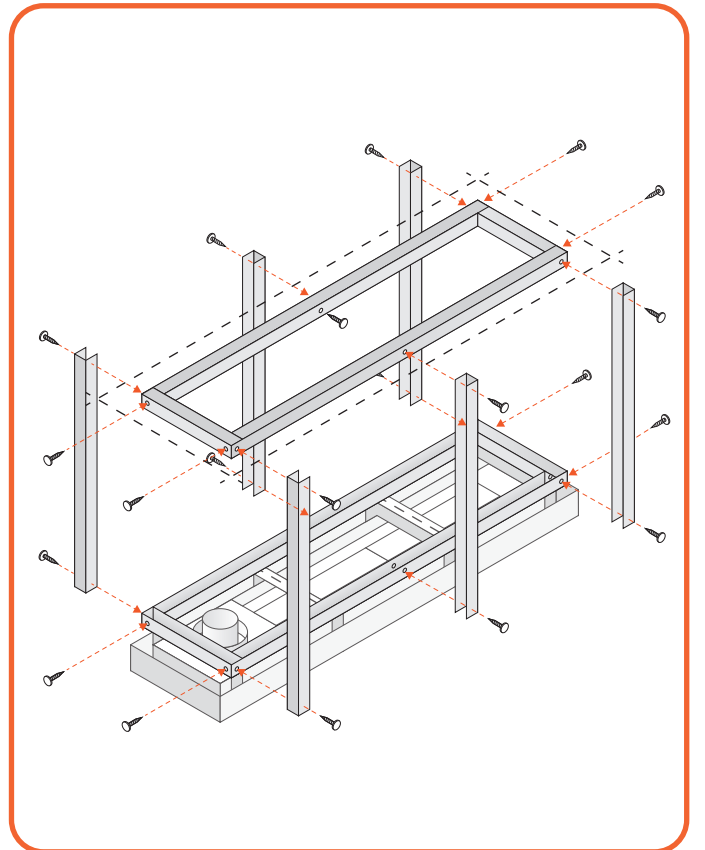
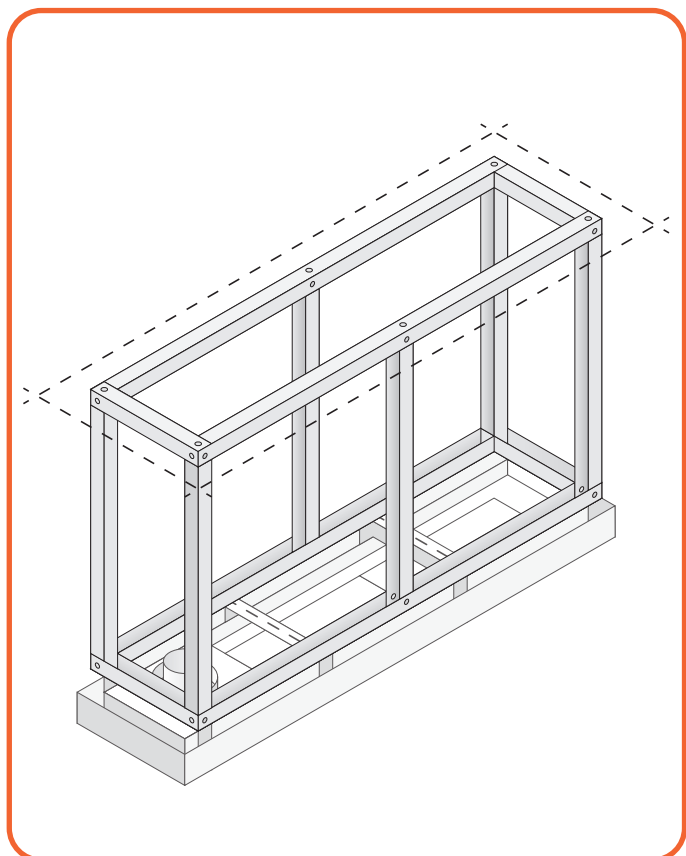

Figure 6.15 | Adding vertical insert between the frames
Figure 6.16 | Complete base of the frame
- Then place the upright profiles, which fall between the upper and lower frame. (See Figure 6.15 and Figure 6.16)